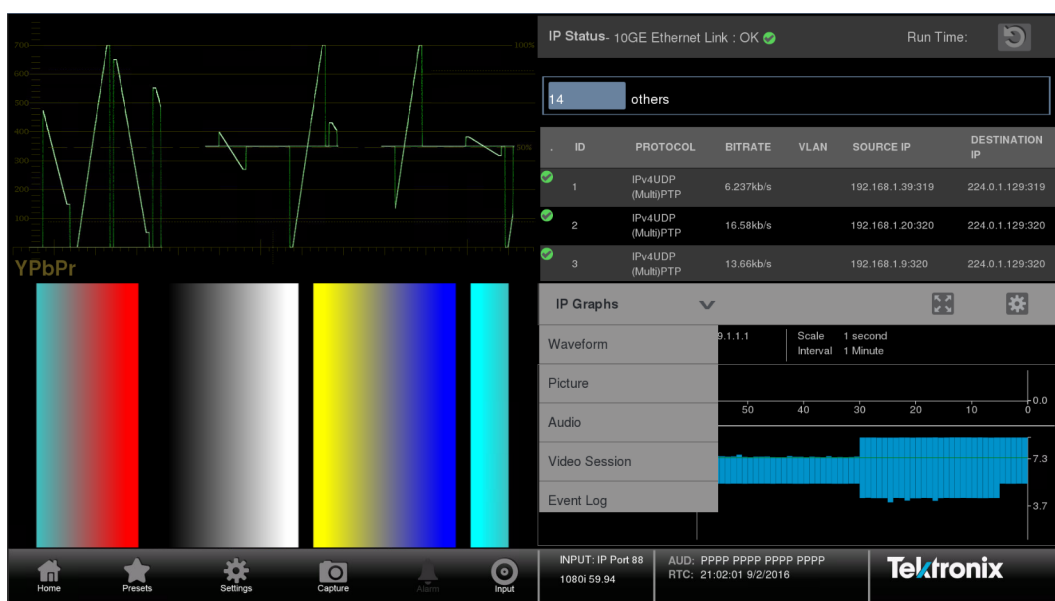

Figure 7: PRISM display in four-tile mode
2. If necessary, touch the menu down arrow to open the list of available applications. (See Figure 7.)